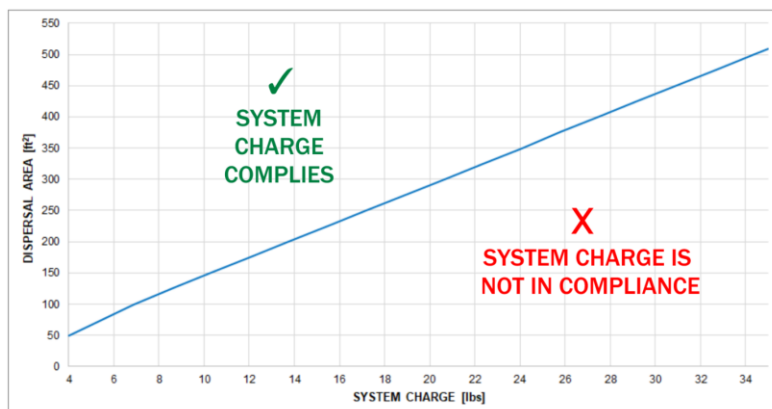

Figure 2. Refrigerant = R32, Air Circulation Provided – System Charge Compliance Chart
On the next page, go to step 3.1. Use the appropriate charts in Figure 2, 3, 4, or 5 to determine compliance.
- Figure 2: Refrigerant = R32, Air Circulation Provided – System Charge Compliance Chart